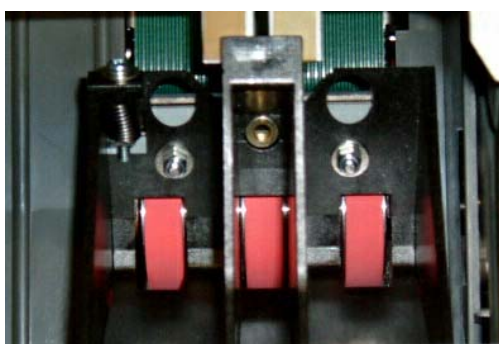

Fig.71
- Examine from the Top, through the two openings whether the distance of the separating fingerplate is even on both sides. (Fig.71)